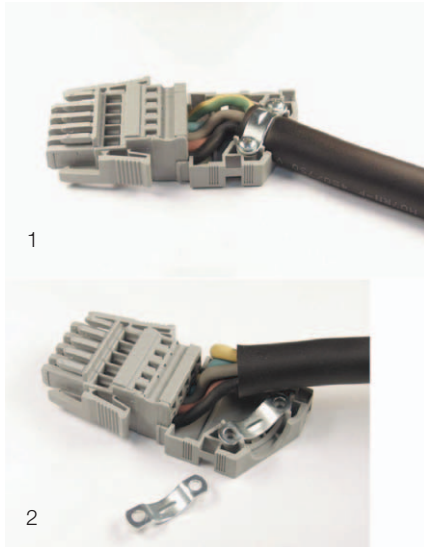

Fig. 79: Connector with strain relief housing
- Guide the conductors in the strain relief housing, as shown in fig. 79, and secure the sheathed flexible cable to the strain relief housing with a cable clamp.
To ensure adequate strain relief even with cables with a diameter of  $< 12$  mm, it is necessary to install a second cable clamp underneath the cable (fig. 79, item 2).